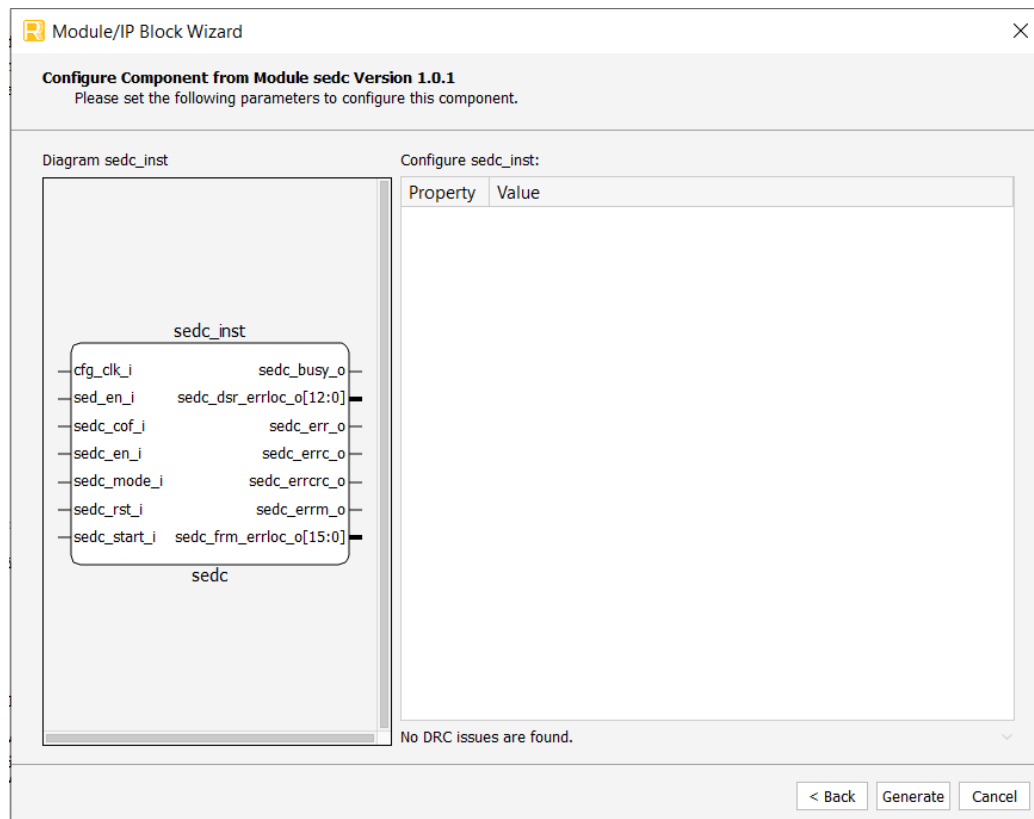

Figure 3.3. Configuration Window
4. Update the configuration parameters as necessary as shown in Figure 3.3.
IP Generation and Evaluation	Updated Figure 3.3. Configuration Window.